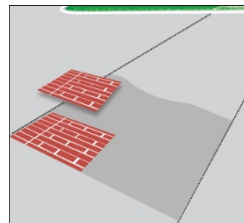

Figure 9: Layout material before sealer cures
7. Apply the TrafficPatterns® material with skid resistant side facing up, as soon as the sealer has been applied, following the handling procedure in Step 2. Position material so that edges of adjacent sheets fit snugly together and that the pattern of the marking aligns properly from sheet to sheet. *See Figure 9.*